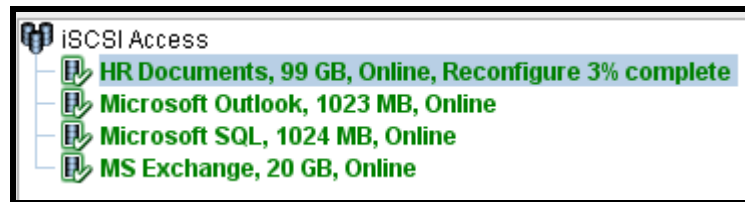

Figure 4-29. HR Documents Volume Being Reconfigured
*During the volume reconfiguration, the Main Display in the Volume View can be used to view the progress of the reconfiguration. In Figure 4-29, the Main Display shows that the reconfiguration of the volume is 3% complete. In addition, the activity indicator in the status bar moves from side to side. At the end of the reconfiguration, the Starting Reconfiguring screen appears, the reconfigured parameters appear in the **Reconfigure** tab in Volume View, and the activity indicator stops moving.*